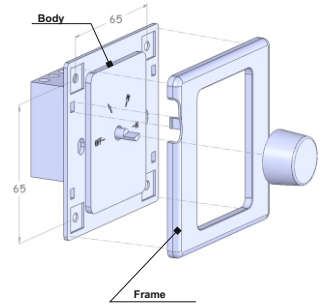

Fig. 3
**INSTALLATION PROCEDURE** (see Fig.3)